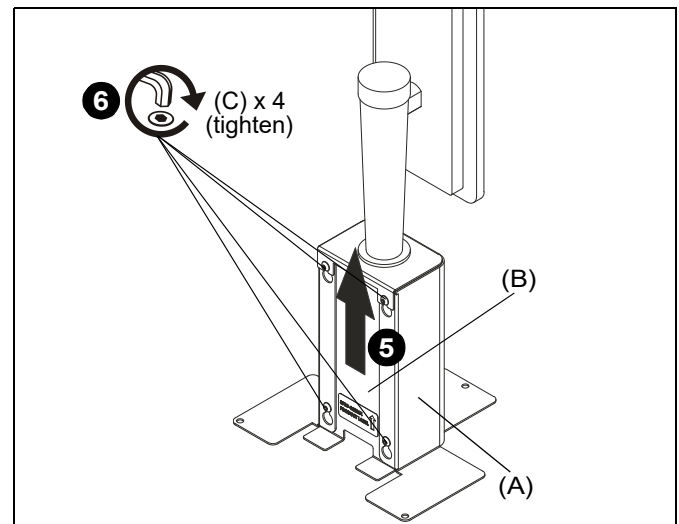

Figure 3
4. Insert column cover (B) into column (A) channel and place four screws (C) into four holes on column cover (B). (See Figure 3)
5. Slide column cover (B) up until screws (C) are properly positioned into keyholes. (See Figure 3)
6. Tighten all four screws (C) to secure column cover (B) to column (A). (See Figure 3)